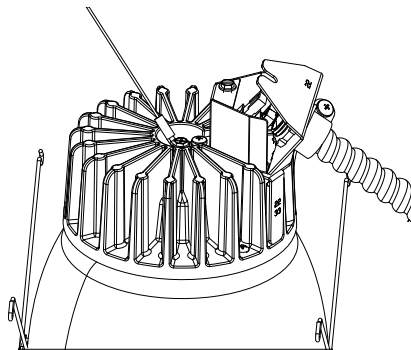

Figure 2
2. Place connectors in housing and insert tabs into slots. See Figure 2.